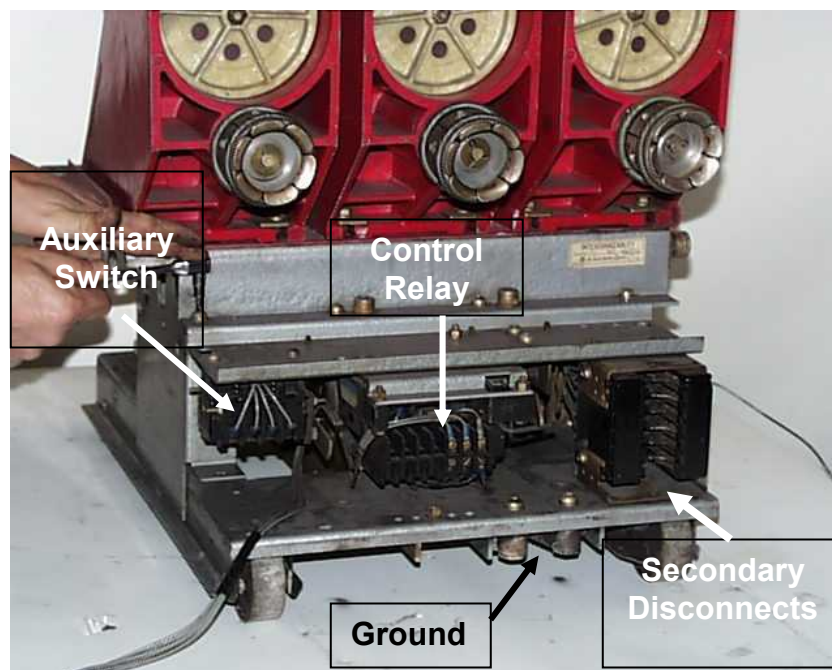

Figure 8-4 Rear electrical plate
8.3.4 The Electrical Devices on the HK Breakers mount on a panel on the rear lower end of the chassis below the primary disconnects. The devices on the panel include (Figure 8-4):
- Ground contact: Located on bottom rear of the breaker grounds the breaker when connected to the bus (Figure 8-4).